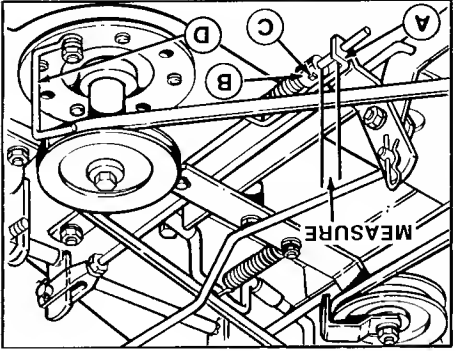
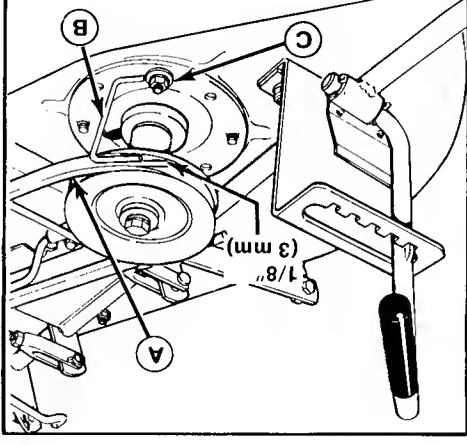

Figure 28. Drive Belt Tension
Figure 29. Right Arbor Belt Stop
Using the height control lever, place the mower in highest cutting position. Place the PTO lever in engaged position. The gap between the rod guide (A, figure 28) and the set collar (B) should measure 3/8 to 1/2 inch (10 to 13 mm). If not, disengage the PTO. Loosen the setscrew (C). Move the rod forward to increase the gap or back to decrease the gap then tighten the setscrew. Engage the PTO and recheck the adjustment. Readjust if necessary.
The arbor belt stops are item 1) in figure 28 and item B in figure 29. There should be 1/8 inch (3 mm) clearance between the belt stops and belt when the PTO lever is engaged. If not, loosen the nut, move the belt stop and